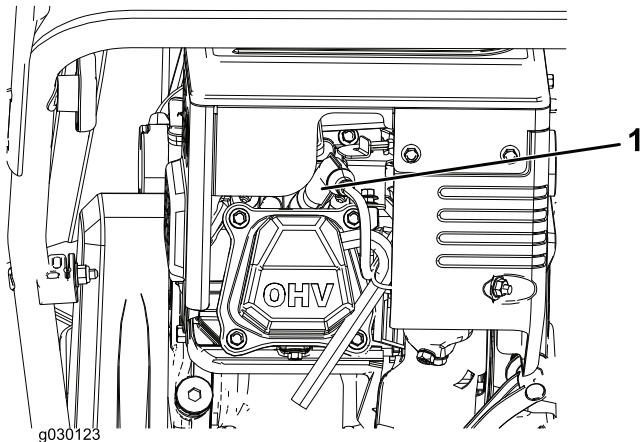

Figure 22
1. Remove the boot (Figure 22).